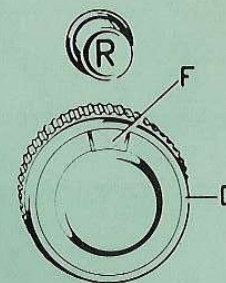

Fig. 16
- Turn button « D » (Fig. 16); the stitch length expressed in mm. is visible through small window « F ».
- Push button « R » completely (Fig. 16); the machine will sew in reverse with the stitch length regulated by button « D ».